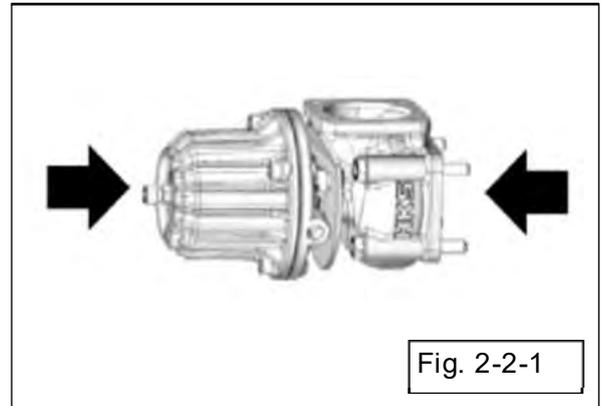

Fig. 2-2-1
- (1) Hold the wastegate by a press or a similar tool toward the directions that arrows indicate in figure 2-2-1.